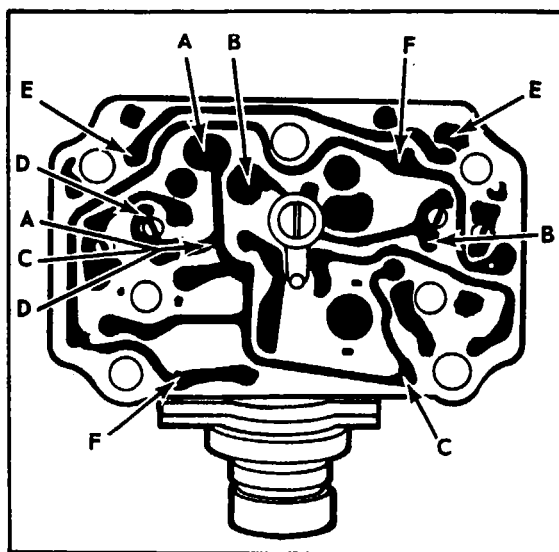

Figure 11-31. Regulator Checks
3. If reading is zero, check for short between NEG and FLD leads, or for a grounded FLD lead. Circuit trace will be burned open between points A-A, B-B or C-C, Figure 11-31.
4. If reading is low, alternator field winding is shorted. Circuit trace may be burned between points A-A, B-B, or C-C, Figure 11-31.
2. If voltage reading is zero, the NEG and FLD leads are reversed. Circuit trace will be burned open between points A-A, B-B or C-C, Figure 11-31.
1. If meter still reads backwards, the POS and NEG leads are reversed. The circuit trace may be burned between points C-C, D-D, E-E or F-F, Figure 11-31. The transient suppression diode always will be open or shorted.
2. If meter now reads zero, the positive line is connected to regulator NEG terminal, the negative line is connected to the regulator FLD terminal, and the alternator "F1" (field) terminal is connected to the regulator POS terminal. The circuit trace will be burned open between points F-F, Figure 11-31.